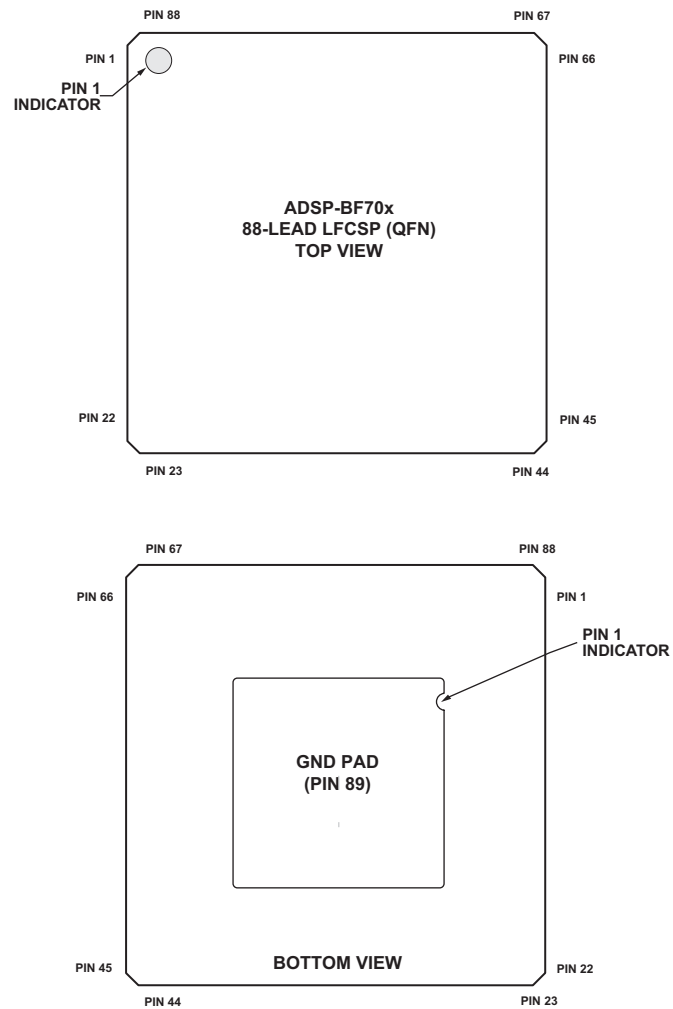

Figure 69. 12 mm × 12 mm 88-Lead LFCSP (QFN) Configuration
Figure 69 shows an overview of signal placement on the 12 mm × 12 mm 88-lead LFCSP (QFN).
*Pin no. 89 is the GND supply (see Figure 69) for the processor; this pad must connect to GND.